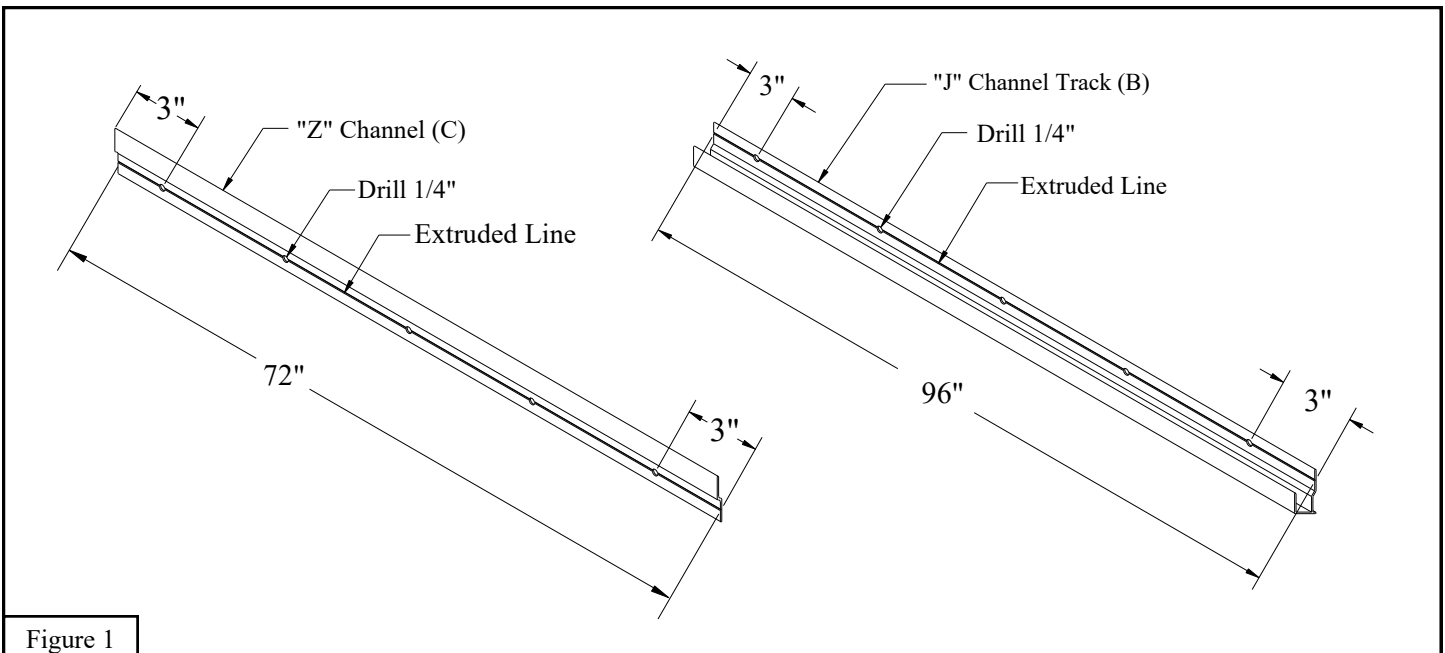

Figure 1
1. Drill 1/4" holes along the extruded line in 50% of the total "J" Channel Tracks (B) and all of the "Z" Channels (C). Holes should be spaced 3" from each end of the extrusions and approximately 12"-18" apart See Figure 1.
2. Position all drilled "J" Channel Tracks (B) no more than 3" from the floor and centered along area to be protected. Check for level.
3. Mark the wall through each 1/4" hole in the "J" Channel Tracks (B).
4. Drill and anchor "J" Channel Tracks (B) to wall using appropriate anchors supplied by installer. Spacing and type of fastener is dependent on the type of wall construction. See Figures 1 and 2.